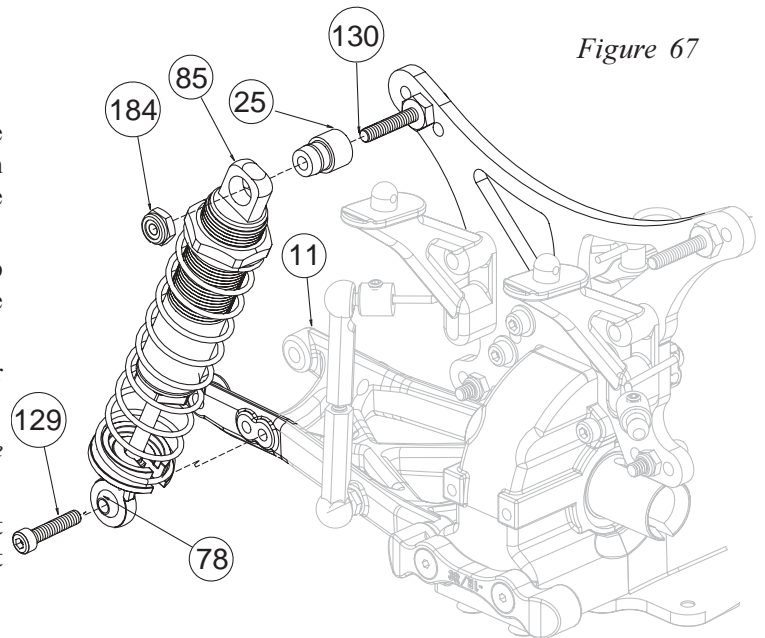

Figure 67
❑ 1. Position the bottom of an assembled rear Shock in front of the Shock mounting area on the left rear suspension Arm (11) as shown in Figure 67. Align the hole in the Shock Mount Ball (78) with the inside hole in the Arm.